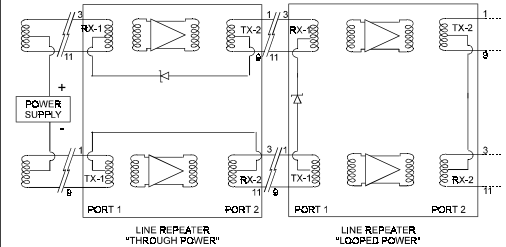

Figure 1. TELCO Simplex Power Arrangement
- RPT can be powered using either TELCO simplex line power or local power. If available, TELCO line power is normally used in preference to local line power. For TELCO power, both "through" and "loop" power methods are supported (refer to *Figure 1*). For local power, RPT can use either a battery or a wall-mounted AC power supply. The outdoor version (RPT-O) can be powered from TELCO simplex line power *only*.